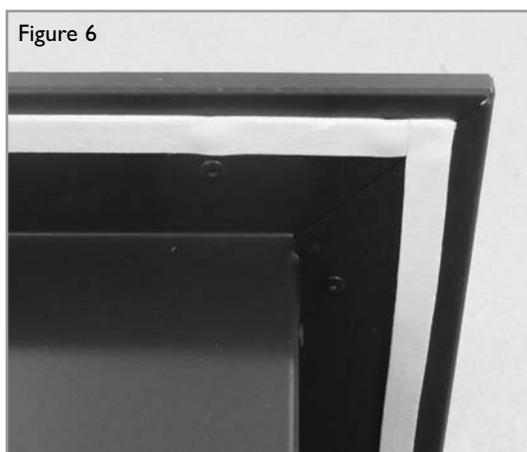

Figure 6
**SEALING STRIPS :** Apply the self adhesive sealing strips to the back of the fireframe as shown in figure 6 to give a continuous seal.